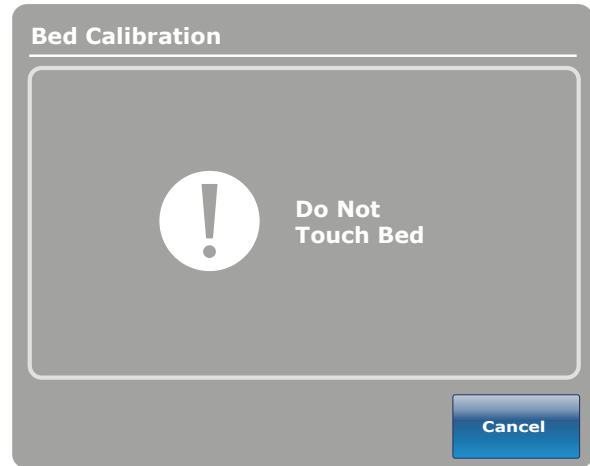

Figure 8
6. Press the  button when done. The “Do Not Touch Bed” screen will appear as shown in Figure 8.